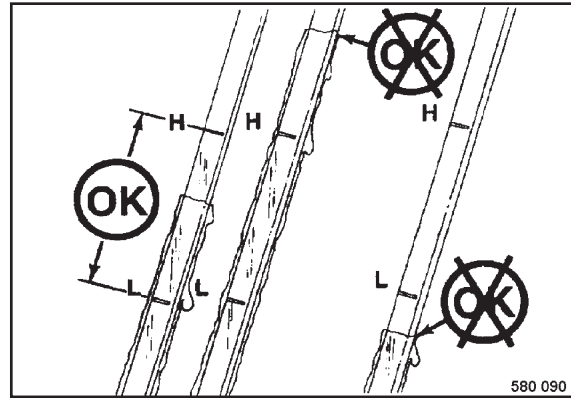

Fig. 109
- Check the oil level again (Fig. 109), if necessary fill up to the Max.-mark.